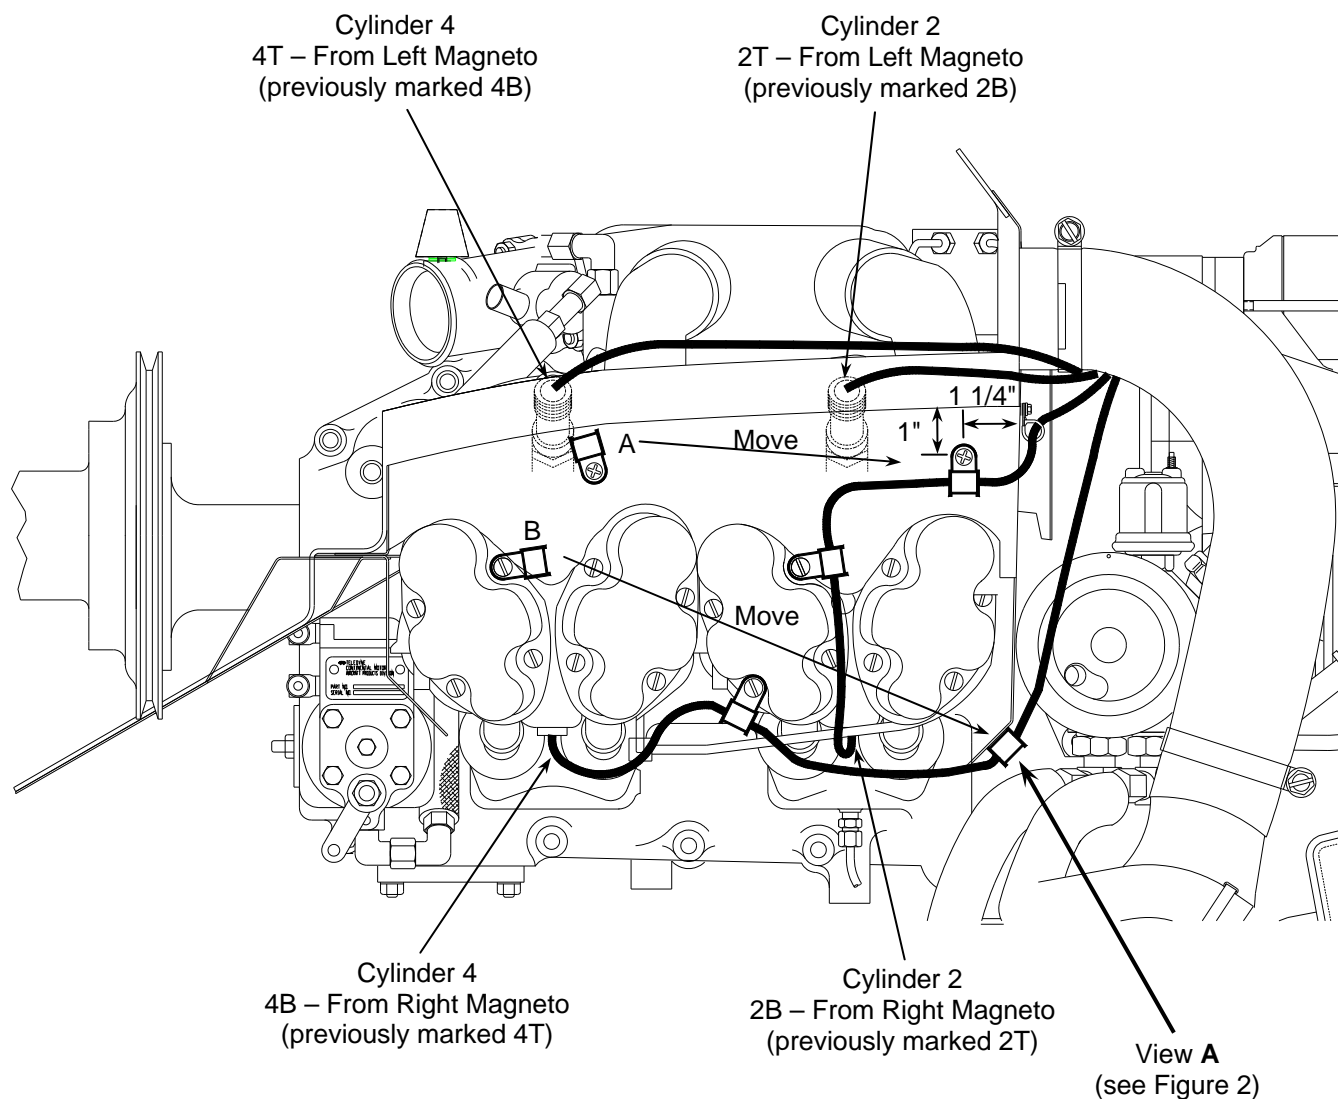
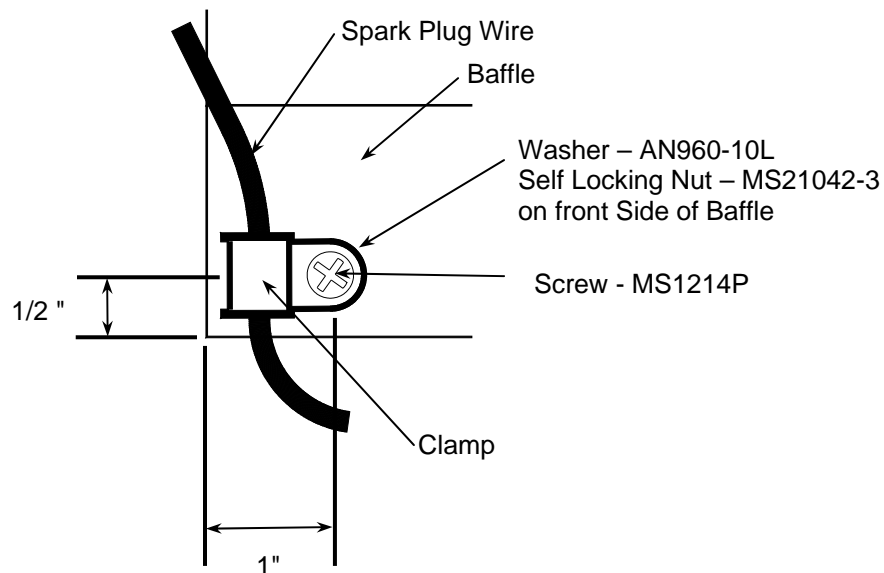

Figure 1
Figure 2
- 10.2** Drill a #10 diameter hole 1¼" forward and 1" down from the upper aft corner of the right baffle (Figure 1).
- 10.3** Remove the cable clamp from location A and move it to the new location (Figure 1). The hole at location A may be sealed with suitable hardware or left open (cooling air leakage is negligible).
- 10.4** Drill a #10 diameter hole 1" inboard and ½" up from lower left corner of the aft baffle (Figure 2).
- 10.5** Remove the cable clamp from location B and move it to the new location (Figure 1). Use suitable hardware (Figure 2).
- 10.8** Reroute the harness as shown in Figure 1 and 3.
10.9 Re-identify the ignition harness as shown in Figures 1 and 3. Vibropeen an "X" through the original lead location and on an adjacent nut flat Vibropeen the new location. As an example, number 4 cylinder upper lead will be changed from "4T" to "4B".
View **A** from Figure 1